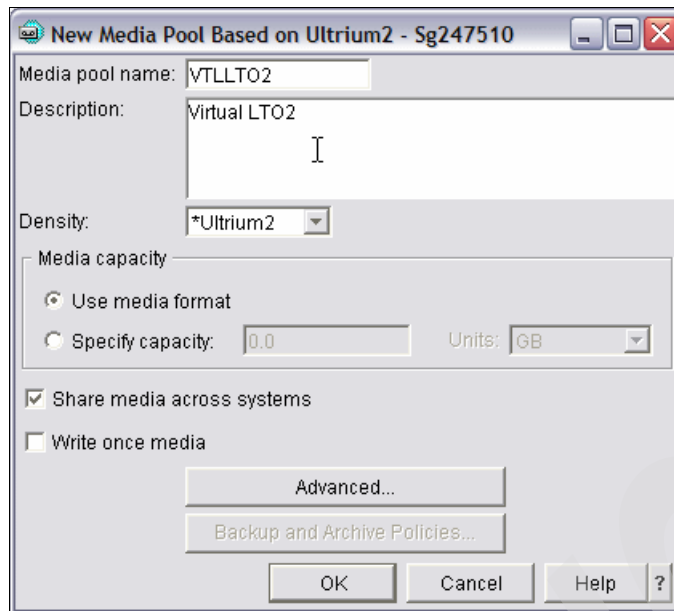

Figure 6-16 New Media Pool Based on
9. In the window shown in Figure 6-16, specify a media pool name and description text that are meaningful to you. Note the selected Use media format and Share media across systems. In this IBM Redbook, we do not cover BRMS multiple system support, but selecting here is acceptable. Click **OK**.